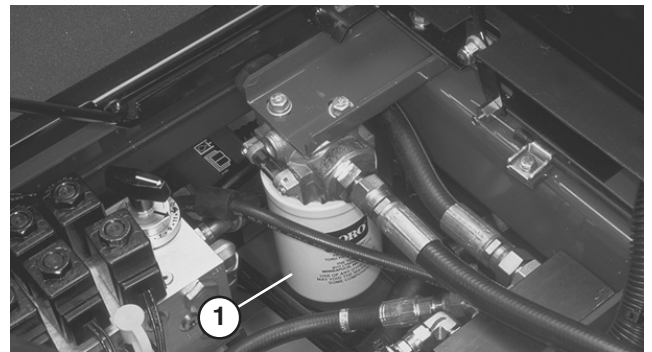

Figure 59
2. Clean area around filter mounting area (Fig. 59). Place drain pan under filter and remove filter.